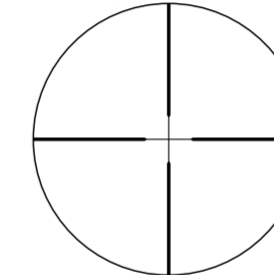
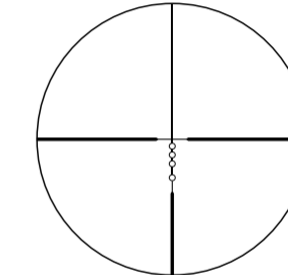

Fig. 3-1
Fig. 3-2
(1) Focusing
- 1 Look through the eyepiece with your eye positioned about 10 cm (4 in) away from the eyepiece to see either the Nikoplex (Duplex) reticle (Fig. 3-1), or BDC 150 reticle (Fig 3-2) depending on your purchased product. Be sure your eye is positioned within proper alignment and proper eye relief, otherwise the view will "black out."